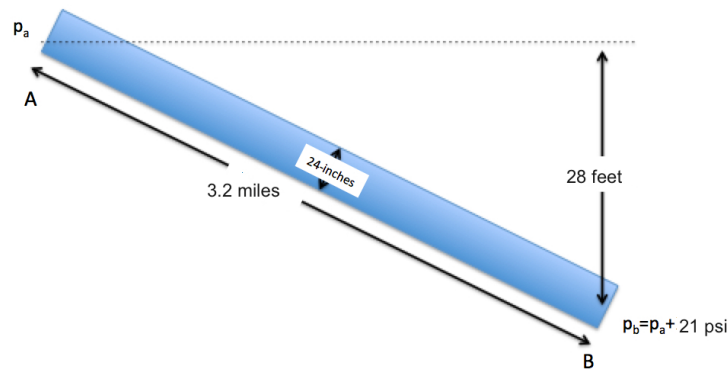

Figure 2: Pipeline Schematic
- (b) Estimate the discharge in the 3.2 mile long, 24-inch diameter, ductile iron pipeline connecting points A and B depicted in Figure 2. Point A is 28 feet higher in elevation than point B. The pressure at point B is 21 pounds per square-inch (psi) greater than the pressure at point A.